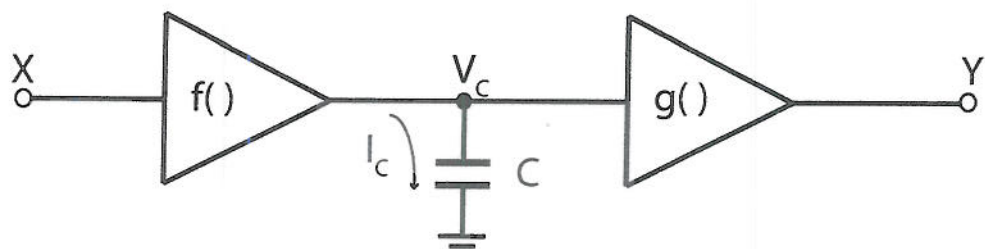

Figure 3.1
- a) Figure 3.1 shows a block diagram of a current-mode integrator, with an input X and an output Y . $f()$ and $g()$ represent non-linear functions which compress and expand the signal such that input-output relationship of the integrator is linear and given by: